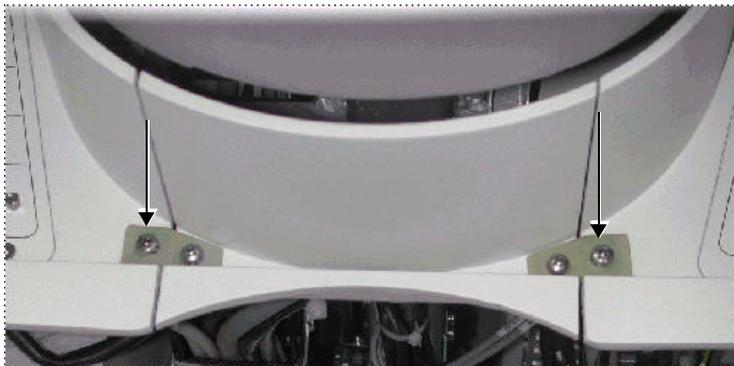

Figure 8-11 Top Cover Collar
- 8) Mount the small section of the top cover collar, closing the open gap at the rear of the top cover, and fasten it to the top cover with the two screws shown in Figure 8-11 on page 8-10.